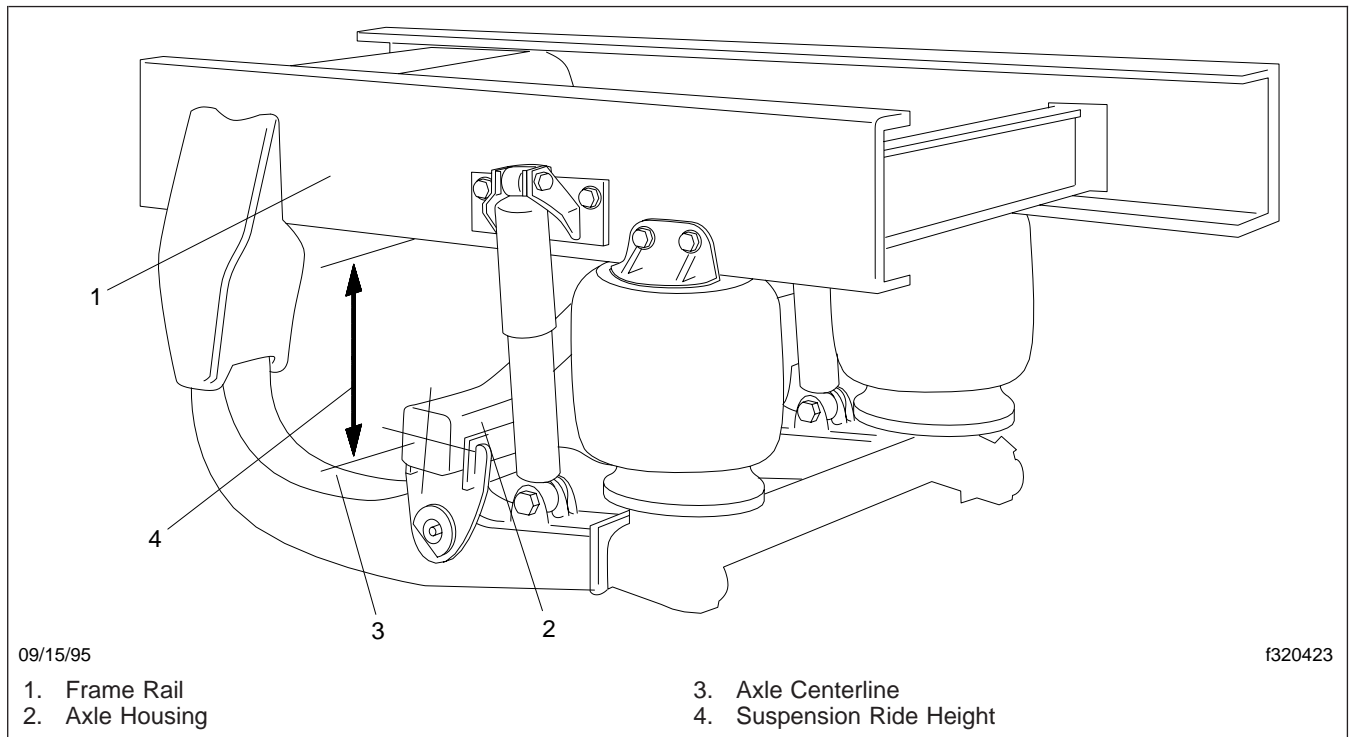

Fig. 20, Neway Ride Height Inspection
5. Check the riding height of the air suspension by measuring the distance from the centerline of the rear axle (see **Fig. 20**) to the bottom of the frame rail. If the riding height is incorrect, adjust the air suspension.